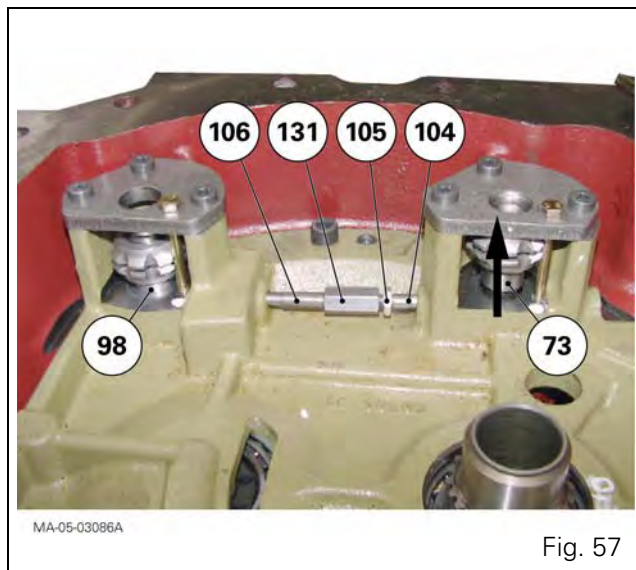

Fig. 57
146. Screw home the rod (106) in the reverse pitch nut (131) (Fig. 57).